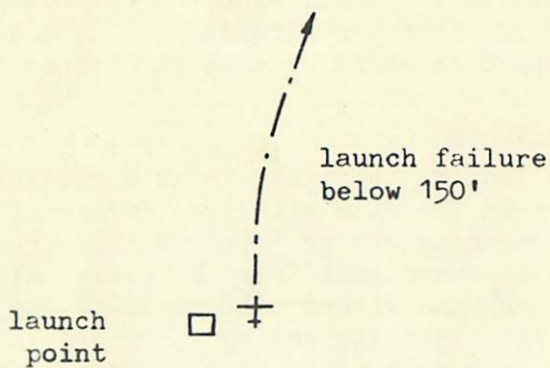

Fig 10
- (a) Below about 150 feet a landing should be made straight ahead, only slight deviations being made to avoid the winch, the cable, or other obstructions. See Fig. 10